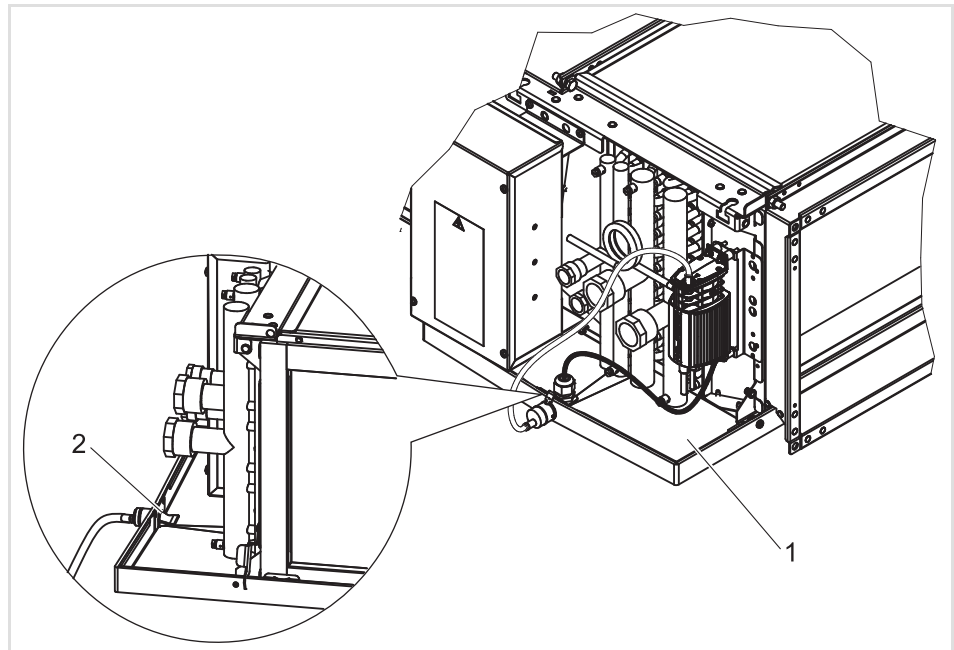

Fig. 7-11: Check condensate pump
- the suction basket (Fig. 7-11, Pos. 2) is clean and has a firm seat.
- Carefully fill the drip tray with some water (Fig. 7-11, Pos. 1) until the pump switches on.